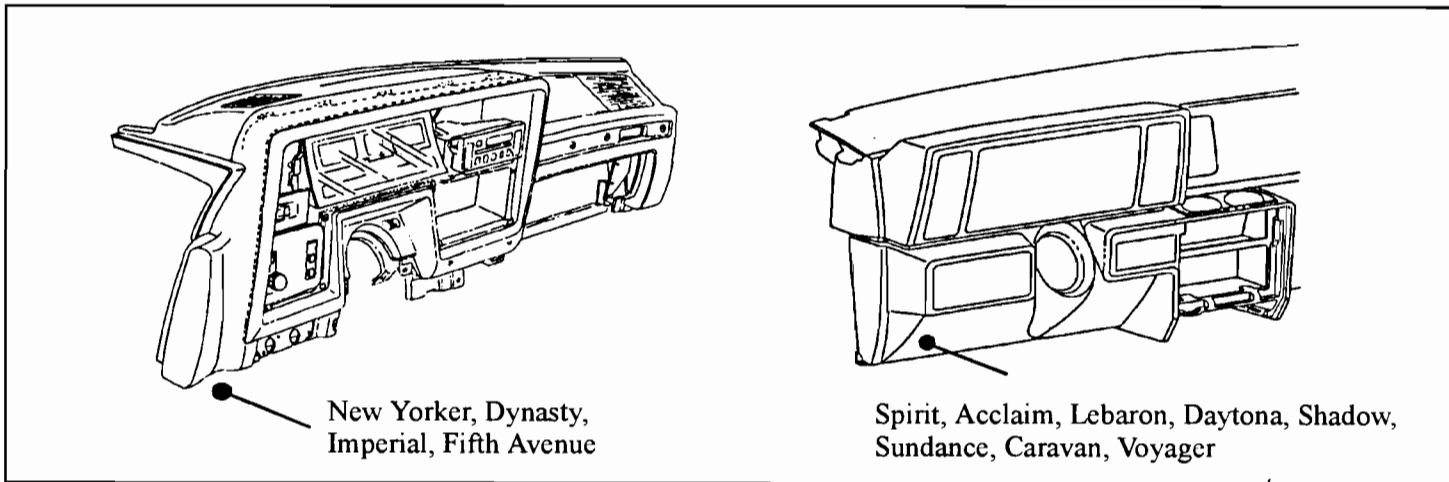

Figure 1
1. Be sure that you are attached to the diagnostic connector located under the dash and not under the hood (See Figure 1).